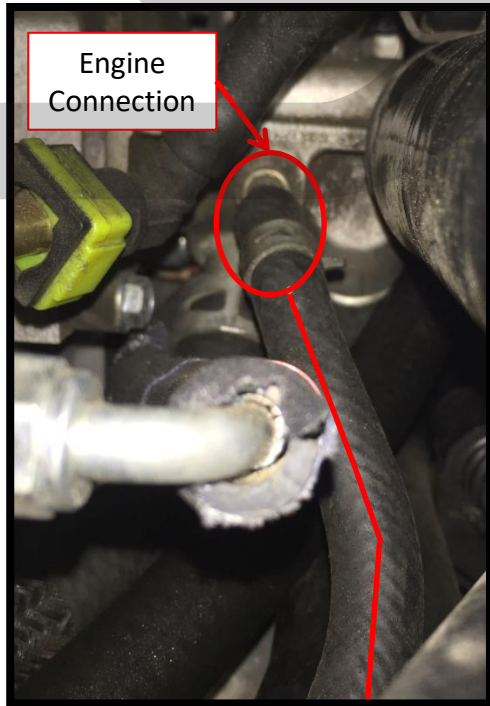

Figure 3a
1. One line will connect to a metal port on the right side of the engine. (See Figure 3a)